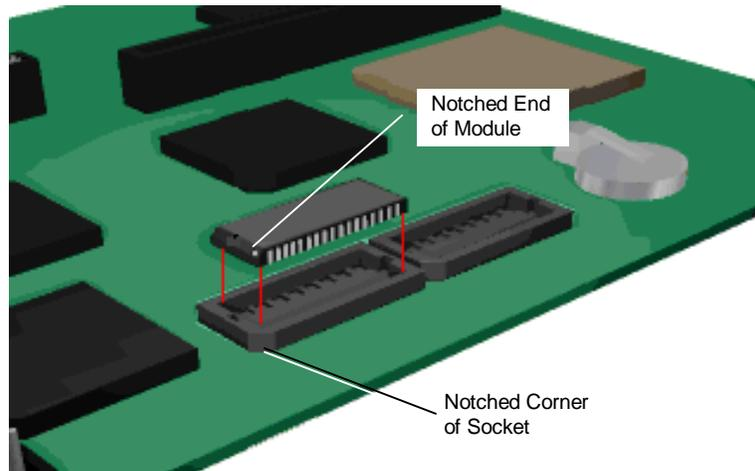

Figure 3-11 *Aligning the Video DRAM Module with the Socket*
3. Align the notched ends of the module and socket (see Figure 3-11). Using equal pressure, gently press the module into the socket. Repeat for the second module.